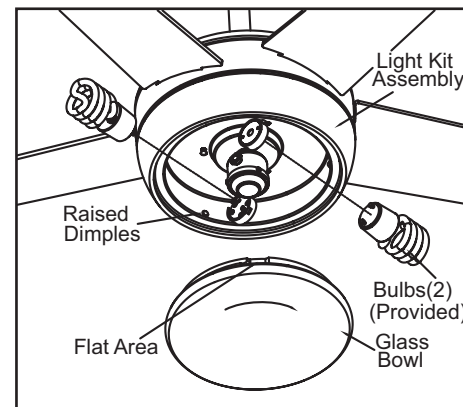

Figure 17
5. Place the glass shade into the light kit assembly, aligning the three flat areas on the top flange of the glass shade with the three raised dimples in the light kit assembly. Turn the glass shade clockwise until it stops (Figure 17).